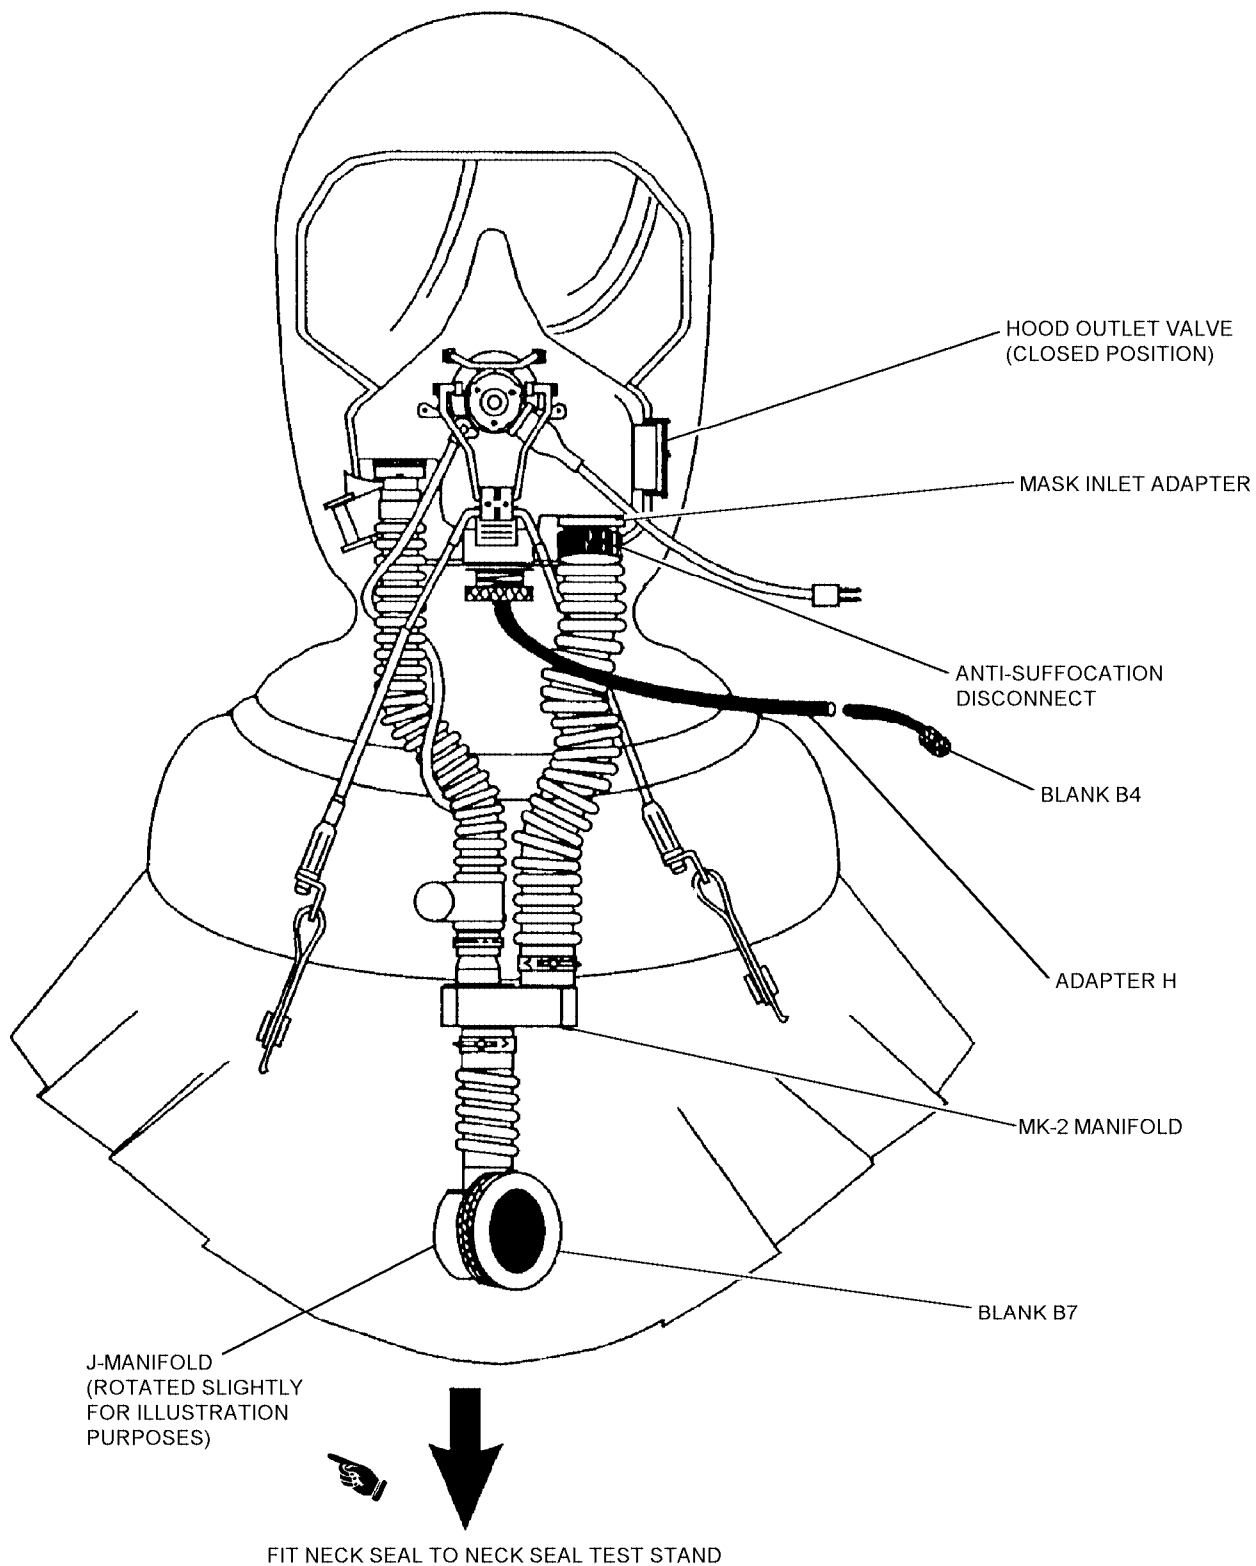

Figure 3-44. Mask Assembly - Overall Leakage Test
2. Fit blank B7 to J-manifold (figure 3-44).